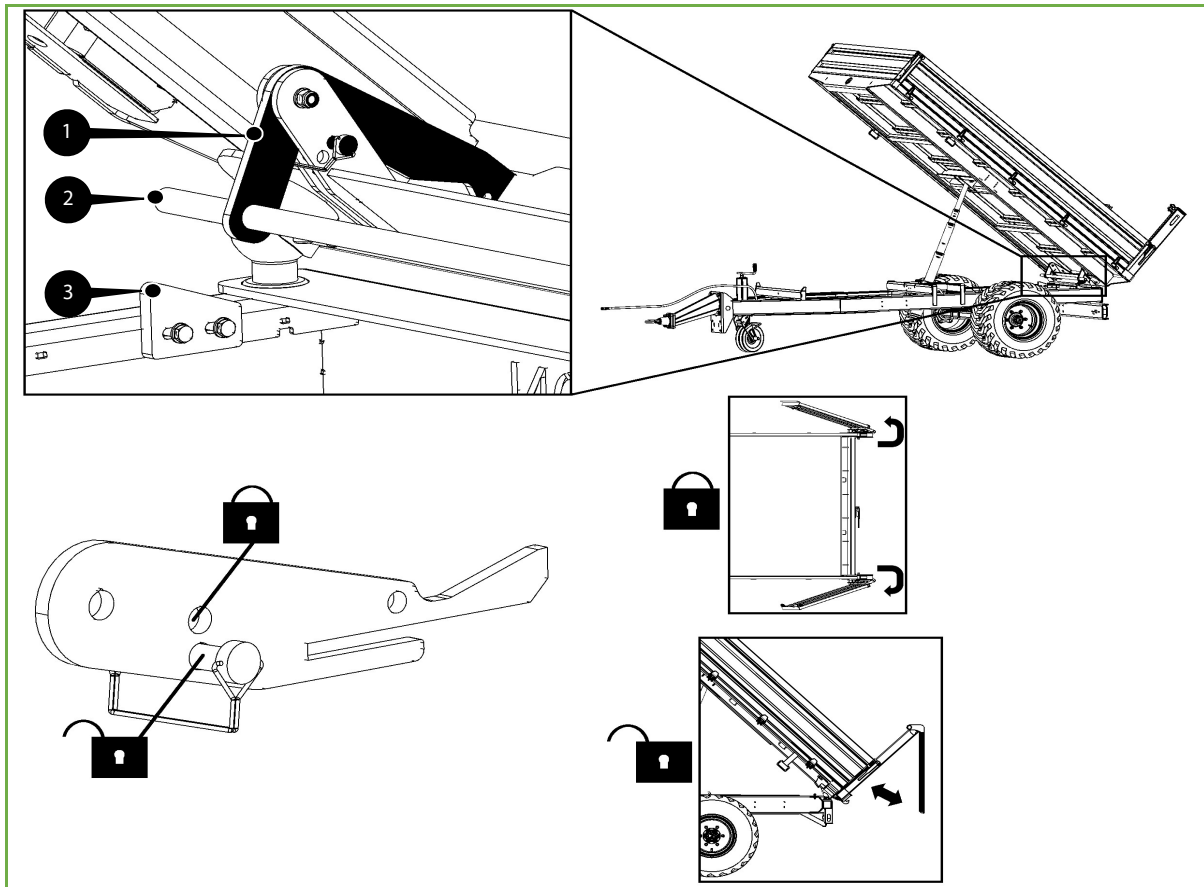

Figure 7-18: Securing the rear tailgate locking hooks - Z045
- Ensure that the locking pin [1] is positioned in the lowest hole. Please refer to Figure 7-18.